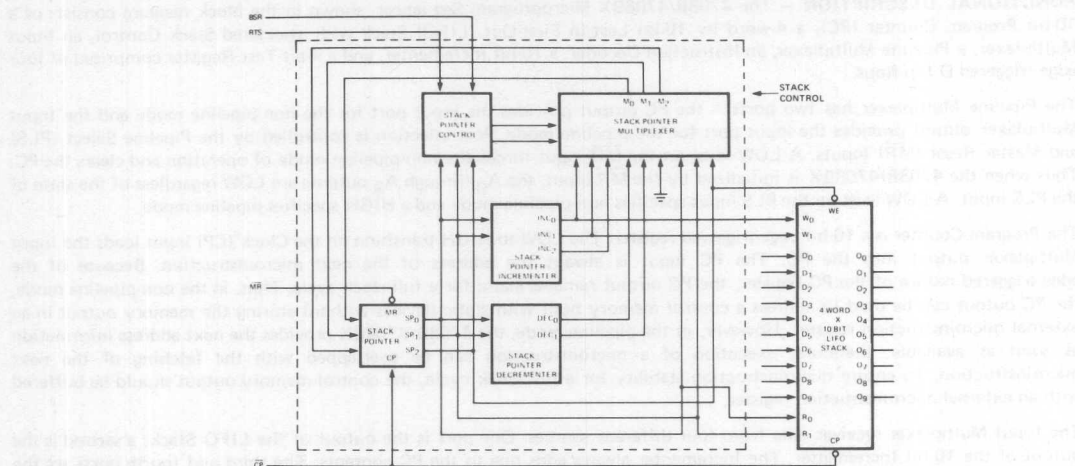

Fig. 1
Stack Control — The 4708B/4708BX has a 4-level subroutine nesting capability as detailed in *Figure 1*. The R_0 and R_1 (Read Address) inputs to the 4-word by 10-bit LIFO Stack specify the address from which information will be read. The W_0 and W_1 (Write Address) inputs specify the address into which information will be written; and the 4708B/4708BX Incrementer output provides the information to be written into the stack (see block diagram). In addition, writing into the memory is controlled by the Write Enable (WE) and CP inputs.